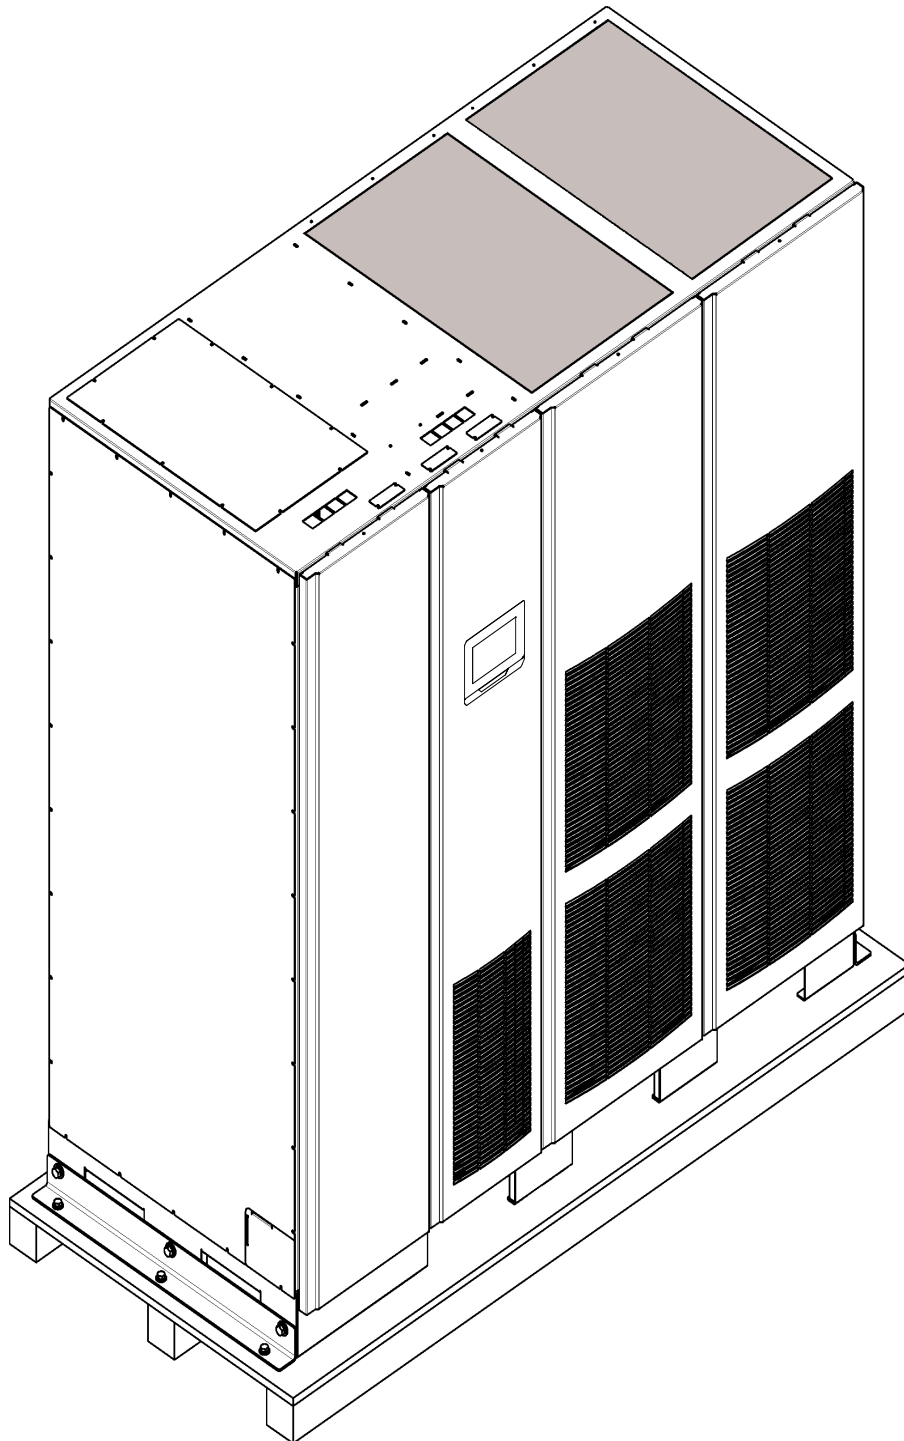

Figure 3-8. Eaton 9395P 500 kVA / 600 kVA cabinet as shipped on pallet
The UPS cabinet is palletted separately for shipping. The cabinet is shipped bolted to a wooden pallet and protected with outer protective packaging material (see Figure 3-8).
2. Use a forklift or pallet jack to move the packaged cabinet to the installation site, or as close as possible, before unpacking. Insert the forklift or pallet jack forks from the right side of the cabinet, between the supports on the bottom of the pallet (see Figure 3-8 on page 26 for the location of the UPS center of gravity).